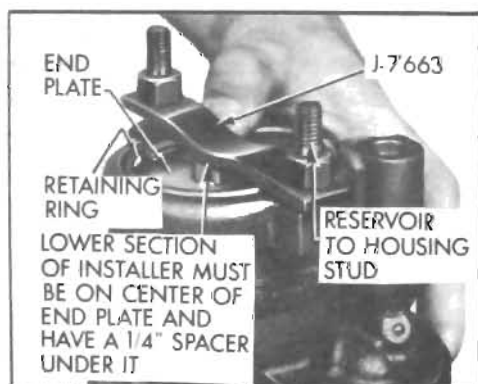

Figure 8-64—Installing Housing End Plate
13. Place end plate retaining ring on top of end plate. Lay a 1/4" spacer on center of end plate, then position Installer J-7663 on end plate so that the depression on it is against the spacer. See Figure 8-64. Attach installer to housing studs with long end of studs threading in housing. Press end plate down by tightening studs until ring groove in housing is evenly exposed. Install retaining ring. Be sure ring is completely seated in housing groove and end plate is aligned properly. Remove studs.